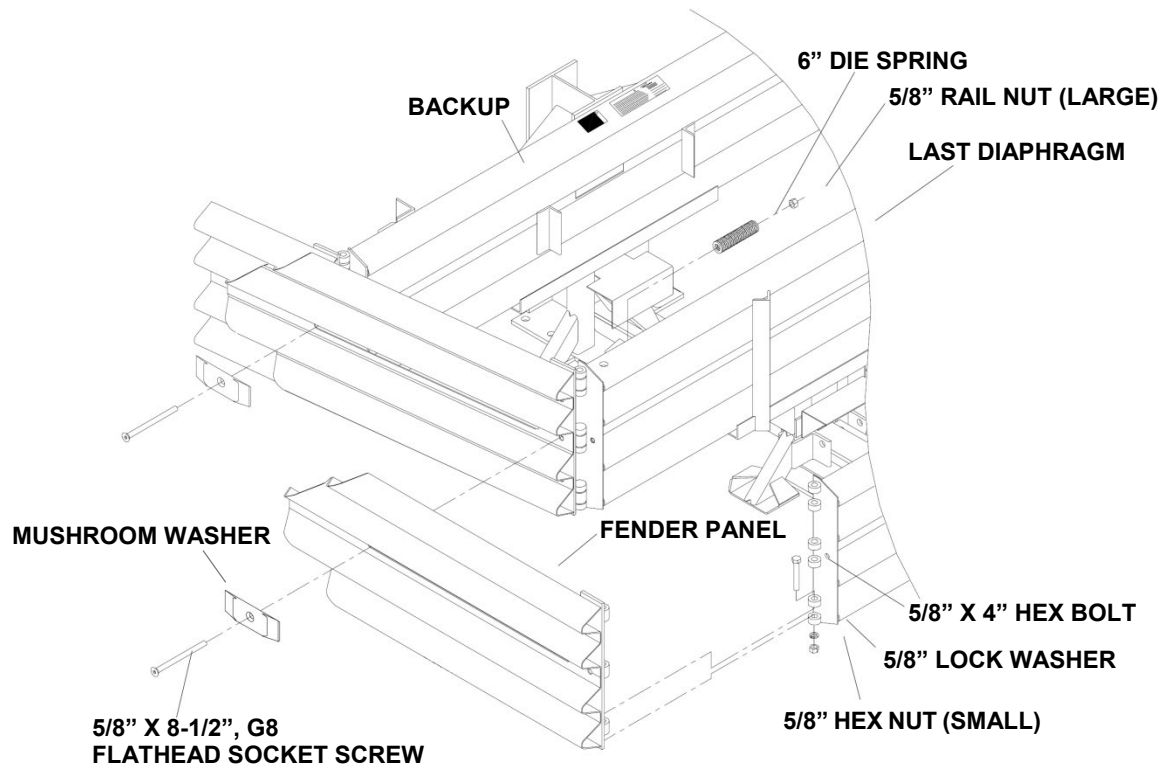

Figure 36
Starting at the last bay, attach left and right Fender Panel (Figure 36). Attach the Hinge Plate at the front of the Fender Panels to the Diaphragm in front using three (3) 5/8" hex bolts, nuts and washers.